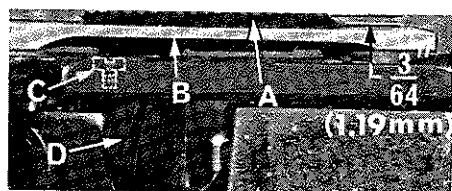

Fig. 13
Set the feed dog (A, Fig. 13) in the throat plate (B) so there is equal clearance on all sides. See that the tips of the teeth extend the depth of a tooth or approximately $\frac{3}{64}$ inch (1.19 mm) above the throat plate and are parallel with the throat plate at high point of travel. Adjust the supporting screw (C), under the feed dog, to maintain this setting. Screw (D) is used to hold feed dog in position.